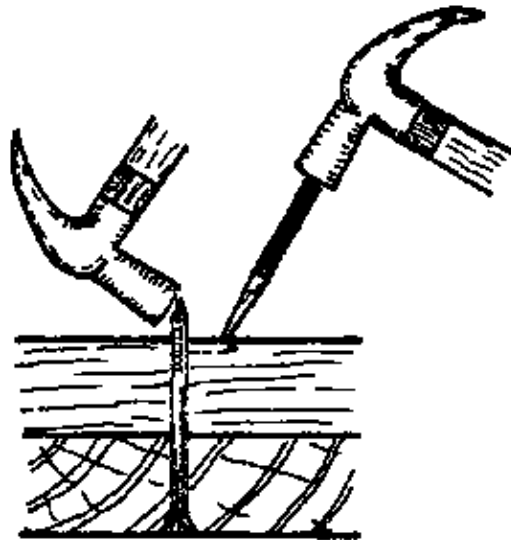

Fig. 4
- Knock the tip flat and punch it into the wood with a nail punch (Fig. 4).